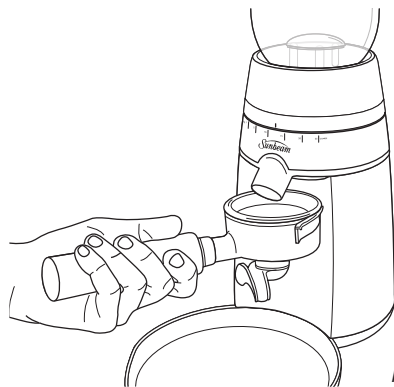

Figure 3
7. Position the group handle into the group handle locator, see figure 3.